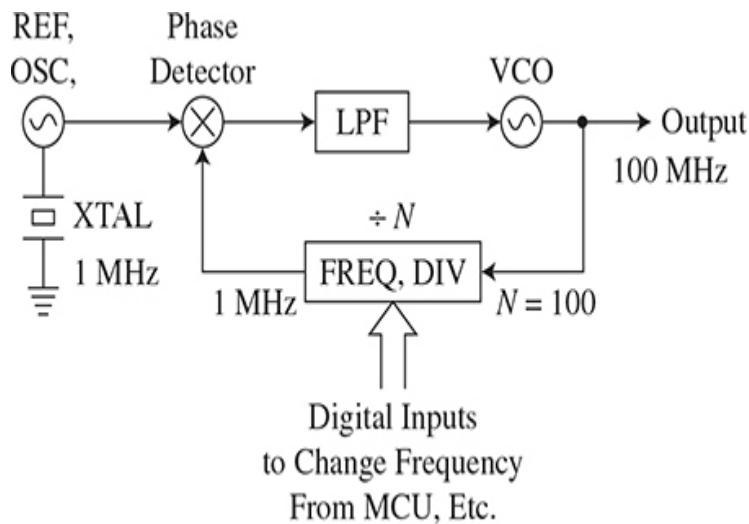

Figure 8.16 The concept of a phase-locked loop (PLL) frequency synthesizer.
A basic PLL frequency synthesizer is shown in Fig. 8.16.
In the PLL in Fig. 8.16, the reference oscillator is set to 1 MHz. Assume that the frequency divider is initially set for a division (N) of 100. For a PLL to become locked or synchronized, the second input to the phase detector must be equal in frequency to the reference frequency; for this PLL to be locked, the frequency divider output must be 1 MHz. The VCO output has to be 100 times higher than this, or 100 MHz. The VCO frequency is set to 100 MHz so that when it is divided, it will provide the 1 MHz input signal required by the phase detector for the locked condition. The result is a 100-MHz signal source. Because the PLL is locked to the crystal reference source, the VCO output frequency has the same stability as that of the crystal oscillator. The PLL will track any frequency variations and correct for them.
Varying the frequency division ratio changes the output frequency. For example, in the circuit in Fig. 8.16, if the frequency division ratio is changed from 100 to 99, the VCO output frequency must change to 99 MHz. Each incremental